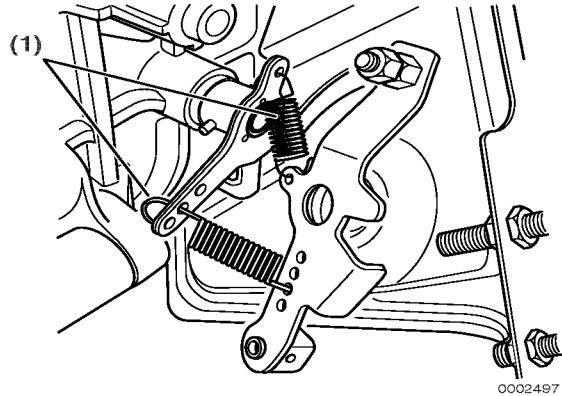

Figure 6-79
2. Pull the assembly away from the crankcase (**Figure 6-79, (1)**) and mark the position of each spring end for reassembly. Carefully remove each spring.